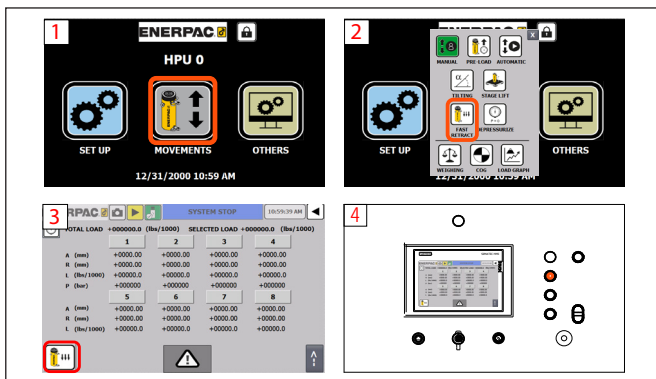

Figure 59: Fast retract procedure
5. The system will require a second check to be sure the cylinders do not have any load. If any load is withstood by the cylinders, tap yes button. Refer to Figure 59.